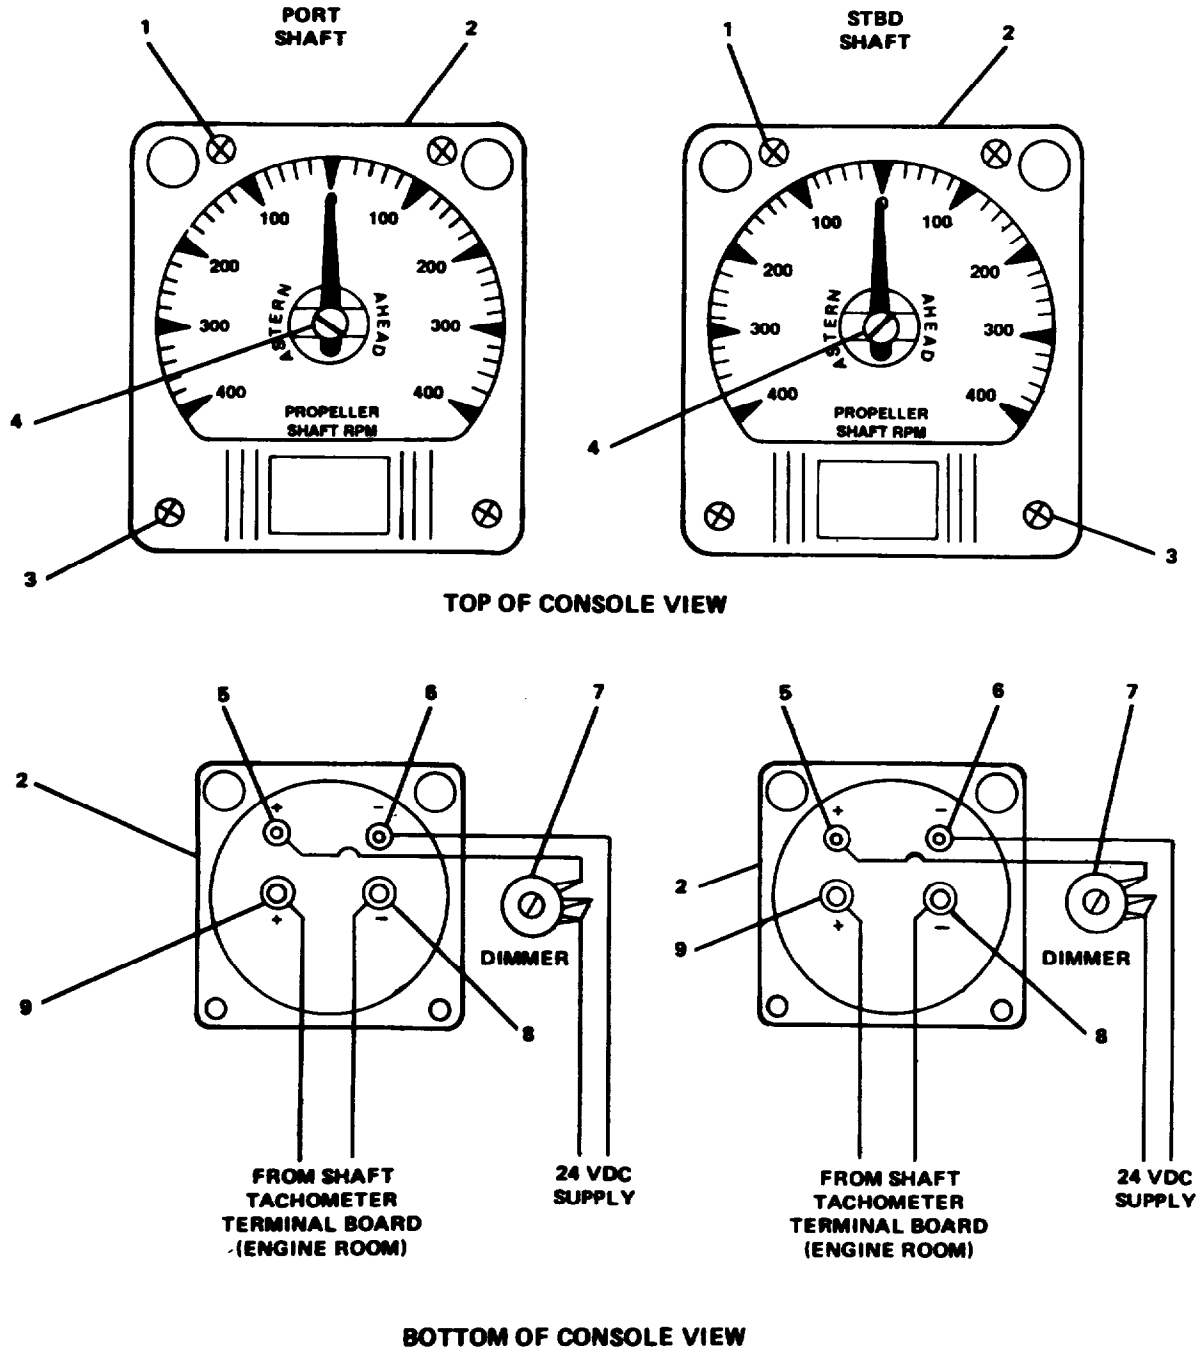
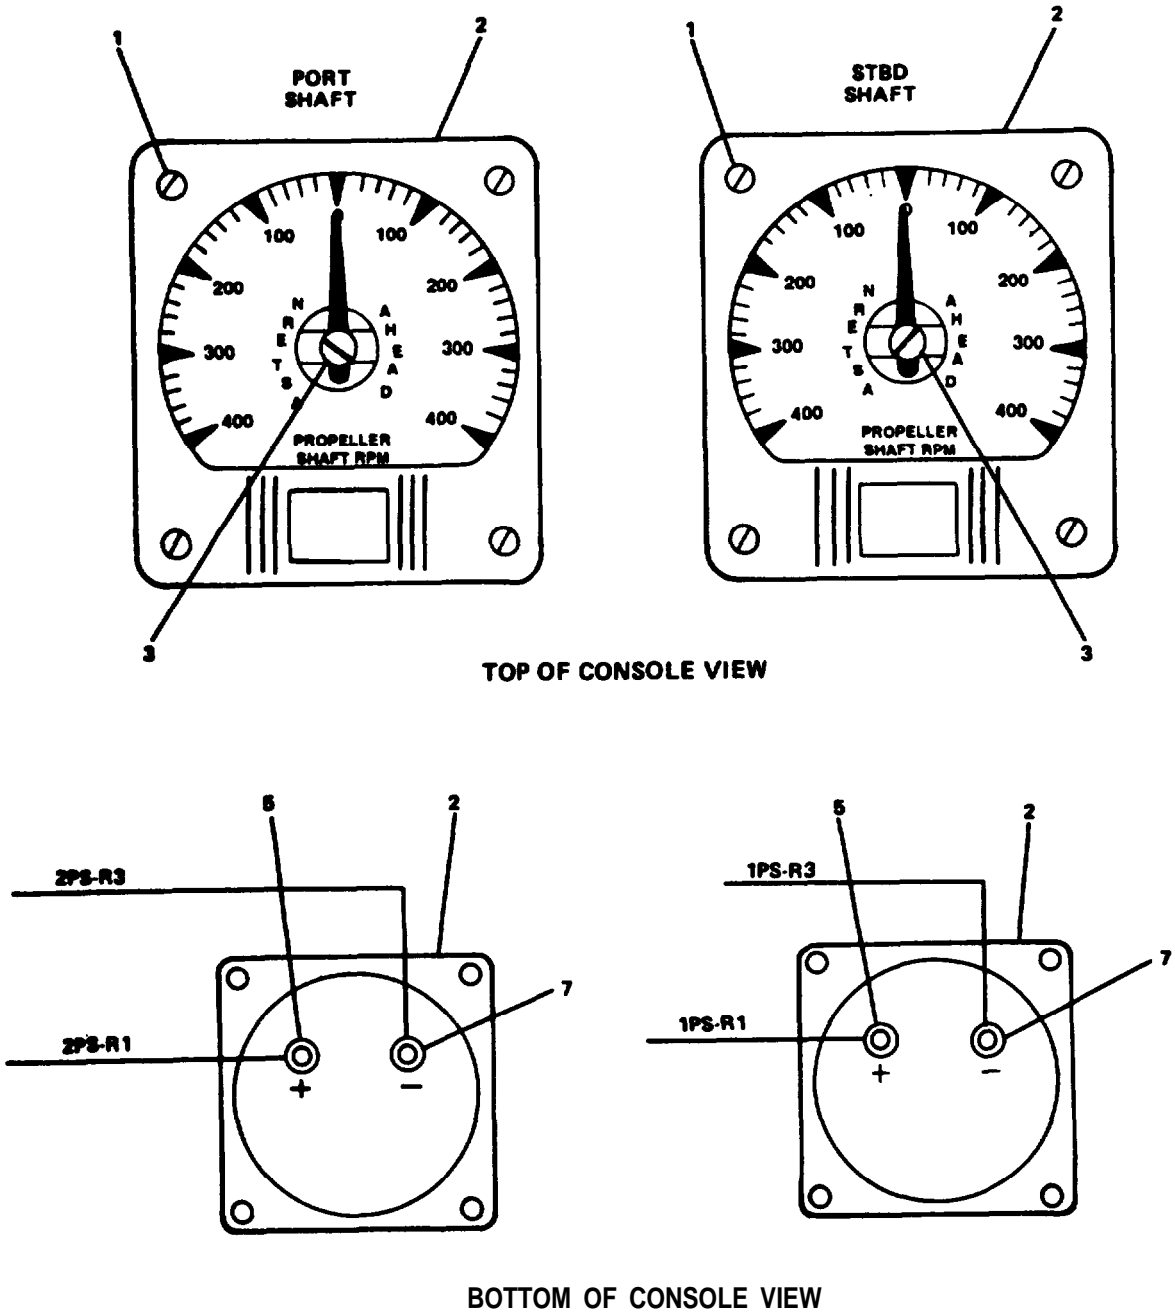

FIGURE 2-232. Wheelhouse Console Shaft Tachometers.
FIGURE 2-233. Engine Control Station Console Tachometers.
- (3) Using machine rule, measure and record gap distance between pickup sensing lug (2) on shaft flange (1) and end of motional pickup transducer (5). This measurement will be used to install replacement motional pickup transducer.
- (4) Loosen jam nuts (6) and remove motional pickup transducer (5) and jam nuts (6) from pickup mounting bracket (3).
- b. Remove arbitrary scale meter (2, FIGURE 2-232) (wheelhouse panel).
Repair of the electrical self generating tachometer is by replacing motional pickup transducer (5, FIGURE 2-232), dimmer rheostat (7, FIGURE 2-232) and arbitrary scale meter (2, FIGURE 2-232) or (2, FIGURE 2-233).
- (1) Position arbitrary scale meter (2, FIGURE 2-233) in engine control station console and secure with top mounting screws (1) and bottom mounting hardware.
- (2) Calibrate meter (2) by using screwdriver at point (3) on top of meter and aligning meter needle to the straight up position.
- (3) On bottom of console, connect wiring to terminals (5 and 7) on appropriate arbitrary scale meter (6). Remove tags.
- (4) On ENGINE RM DC PNL EP024, use fuse puller and install appropriate fuse cartridge in position #14, SFT TAC (Port) or #13, SFT TACH (STBD).
- (5) Request operations to start main engine and engage shafts in AHEAD and ASTERN. Observe that shaft tachometer indicates correct direction.
- (1) Position appropriate dimmer rheostat (7, FIGURE 2-232) in console and replace any mounting hardware removed.
- (2) Connect wiring to appropriate dimmer rheostat (7). Remove tags.
- (3) Turn on 24 Vdc Supply by replacing appropriate fuse cartridge removed previously.
- (4) On ENGINE RM DC PNL EP024, use fuse puller and install appropriate fuse cartridge #14, SFT TACH (port) or #13, SFT TACH (STBD).
- (5) Using screwdriver, vary dimmer rheostat (7, FIGURE 2-232) and observe that appropriate arbitrary scale meter (2) illumination varies.